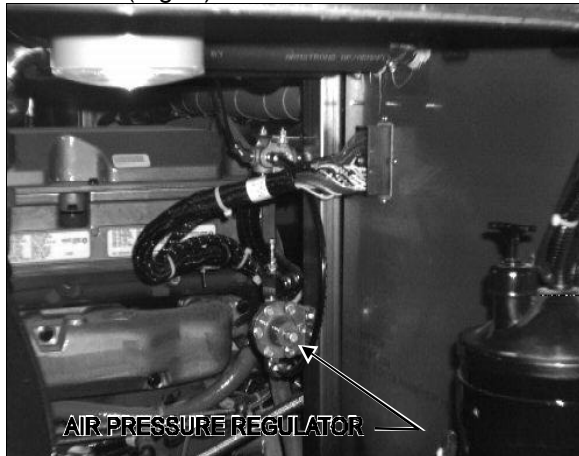

FIGURE 9: ENGINE COMPARTMENT R.H. SIDE 02003
21. Adjust the retarder pressure to  $80 \pm 3$  psi with the air pressure regulator. For more information refer to Section 12, "Brake and Air System", under heading "8.PRESSURE REGULATING VALVES". The air pressure regulator is located in engine compartment R.H. side (Fig. 9).
17. Adjust the servo clutch pressure to 40 psi with the air pressure regulator. For more information, refer to Section 12, "Brake and Air System", under heading "8. PRESSURE REGULATING VALVES". The air pressure is located in the engine compartment R.H. side (Fig. 9).